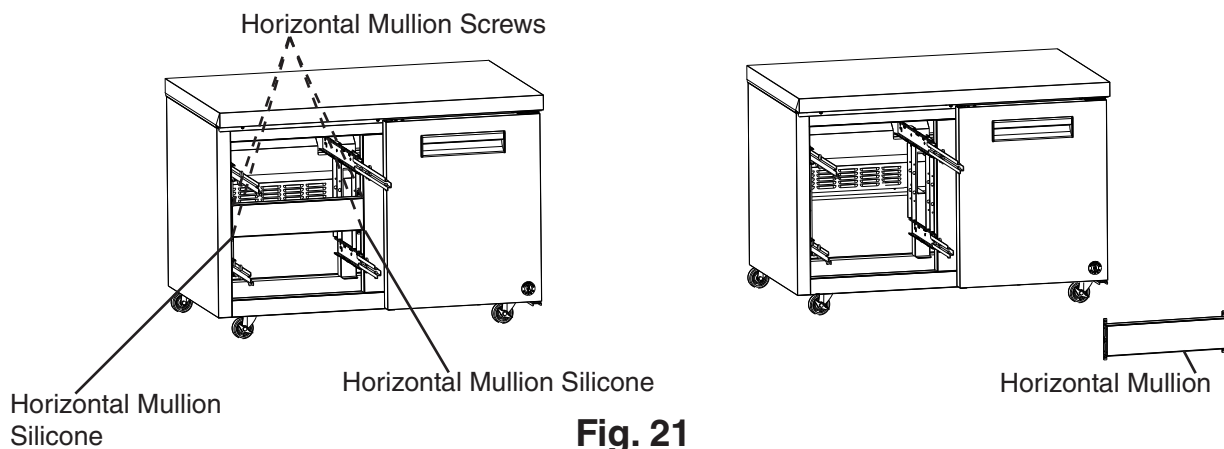

**Fig. 21**
- 3) Remove the 4 horizontal mullion screws, then cut the horizontal mullion silicone loose and remove the horizontal mullion. See Fig. 21.